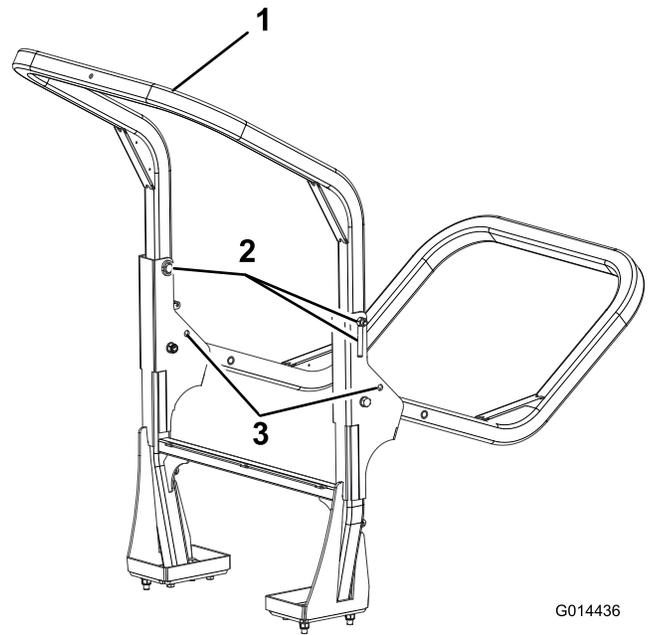

Figure 46
2. Support the weight of the upper frame while removing the hand nuts, washers and retaining bolts from the pivot brackets (Figure 46).